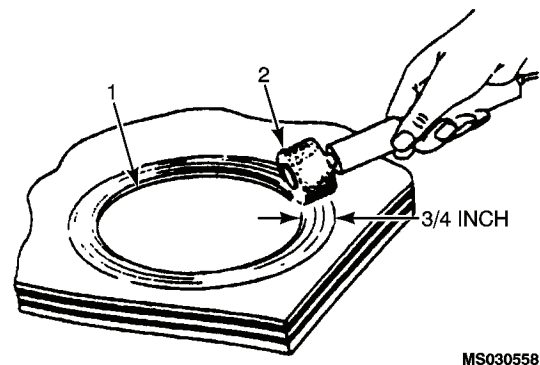

Figure 2-25. Buffing Damaged Area.
(3) Buff surface around damage 3/4 inch larger in all directions than damaged area (1, figure 2-25). Use portable drill (2), abrasive arbor, and/or scotch-brite. Buff only to remove gloss without excessively reducing outer coating thickness.